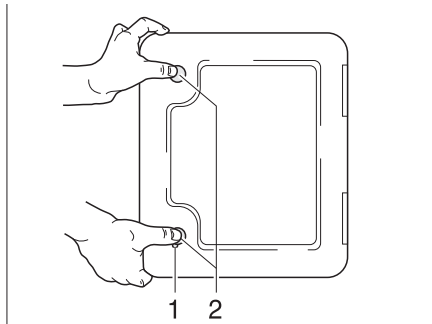

Fig. 145 Flap for the toilet cassette
- Open the flap for the cassette on the outside of the vehicle. Insert the key into the locking cylinder of the push-button lock (Fig. 145,1) and turn a quarter turn.
- Press both push-button locks (Fig. 145,2) simultaneously with your thumb and open the flap for the cassette.